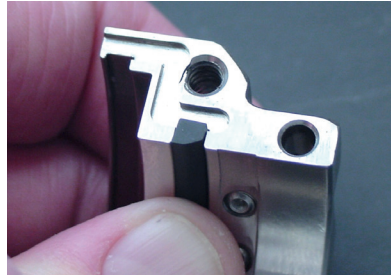

Figure 7
- 3.2 Install the sleeve gasket into the groove. Hold the gasket in the groove and adjust it so the end extends 0.025 to 0.035 inch (0.65 to 0.90 mm) past the seal drive joint surface. See Figure 7.